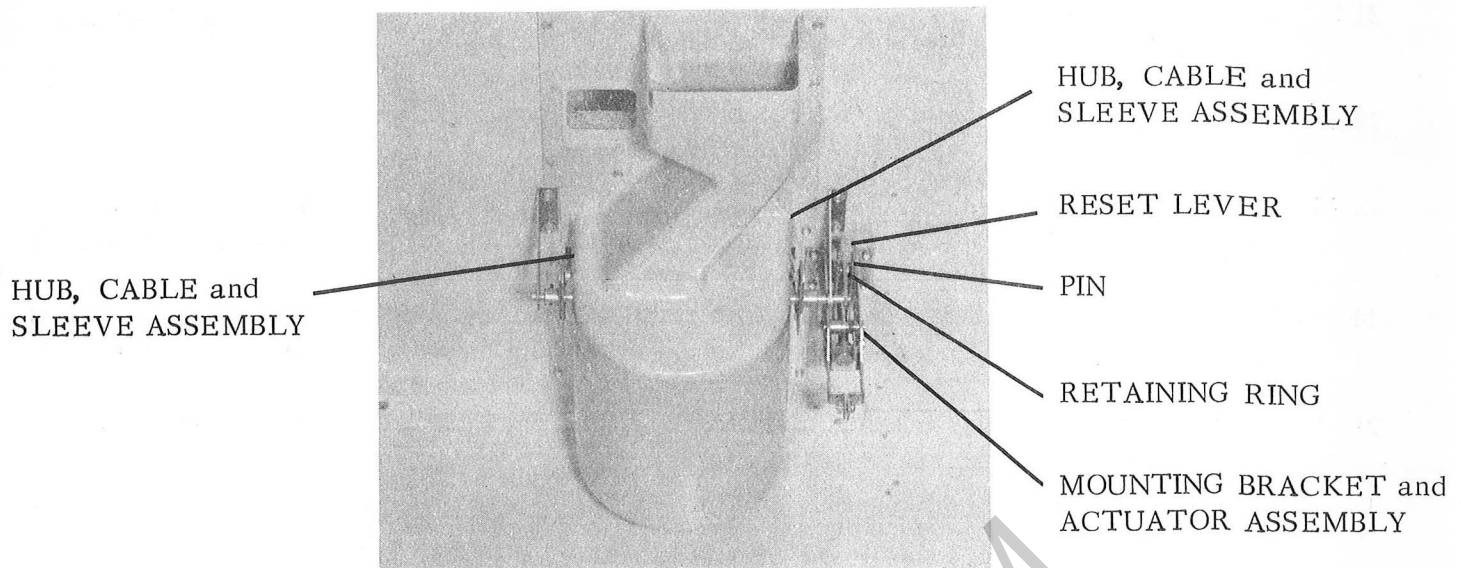

Figure 3.
12. Install Mounting Bracket and Actuator Assembly, Part No. 139052, in Phonograph Cabinet, as shown in Figure 3, and secure with four Screws, Part No. 76267-21.
13. Install Pin, Part No. 139113, in links of Shaft and Adjustment Lever Assembly and Mounting Bracket and Actuator Assembly and secure with Retaining Ring, Part No. 72724-18, as shown in Figure 3.
23. Adjust Cable and Sleeve Assemblies as necessary to provide sufficient tension between Cash Box Door Frame and Cable and Sleeve Assemblies. Refer to Figure 3.
24. To test Alarm, trip left hand Hub, Cable and Sleeve Assembly to activate Alarm, then immediately reset by pushing Reset Lever away from Trumpet. Refer to Figure 3.